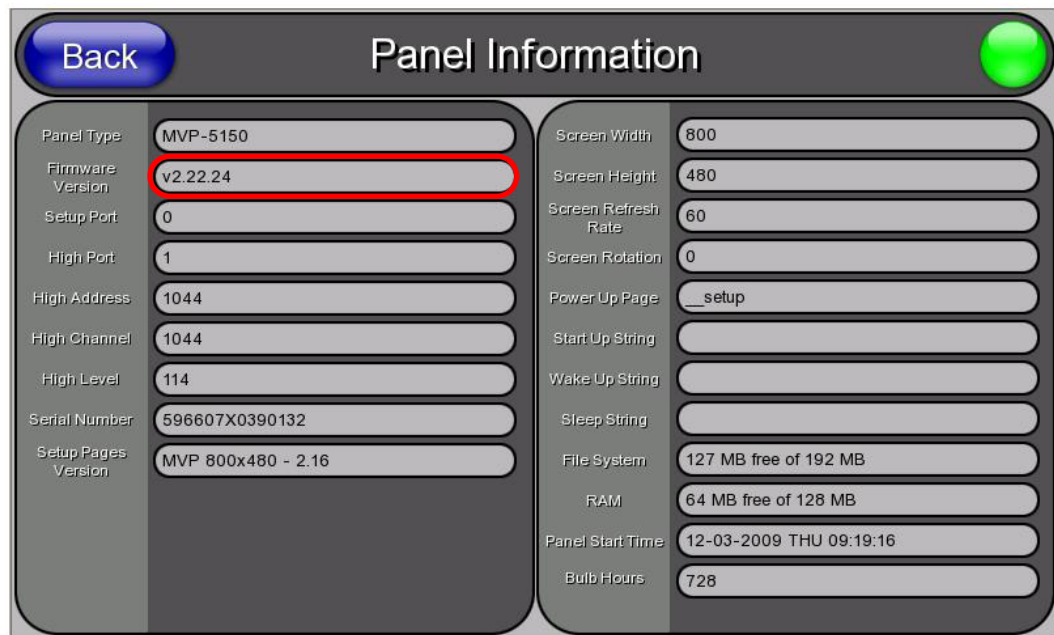

FIG. 1 Panel Information page
3. Press **Panel Information** to access the *Panel Information* page. The current version of panel firmware is indicated under *Firmware Version* in the left column (FIG. 1).